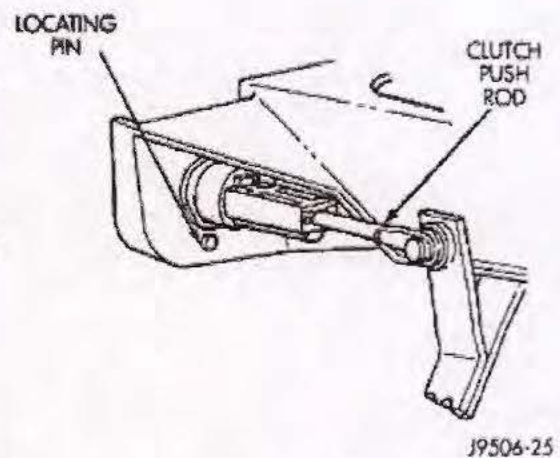

Figure 2
8. For 1994-1997 vehicles, remove the locating pin that secures the master cylinder to the dash panel (Figure 2).
22. For 1994-1997 vehicles, install the original locating pin to secure the master cylinder to the dash panel (Figure 2). NOTE: If a new pin is required, order P/N 06029645.